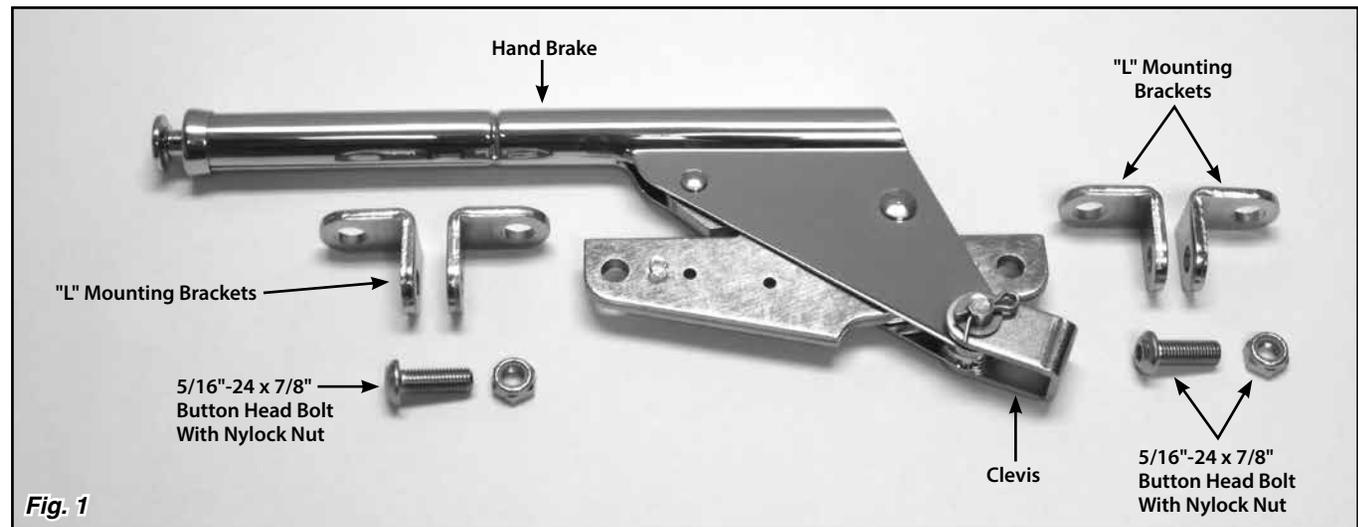
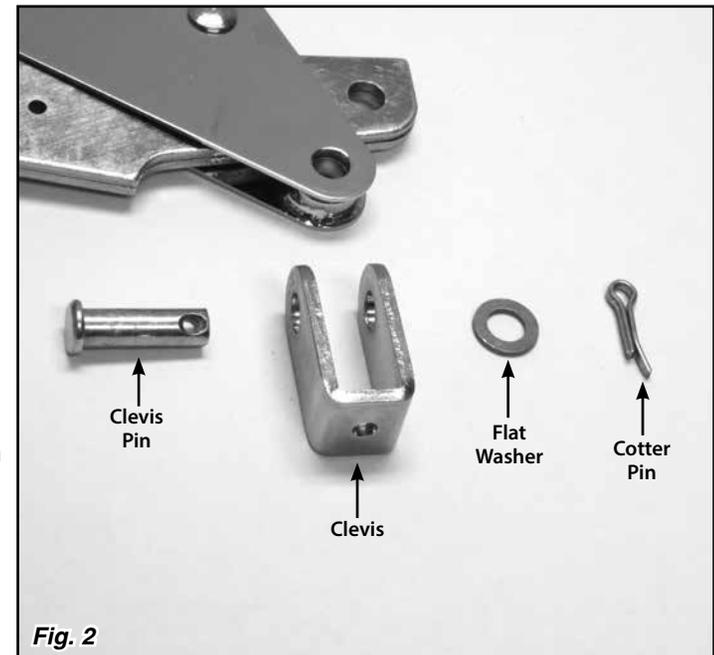

Fig. 1
Fig. 2
Refer to Fig. 1 and Fig. 2 for the component names.
**Step 4:** Remove the cotter pin and flat washer from the clevis pin and remove the clevis from the Hand Brake. Fig. 2 Insert the Hand Brake into the slot you just cut.